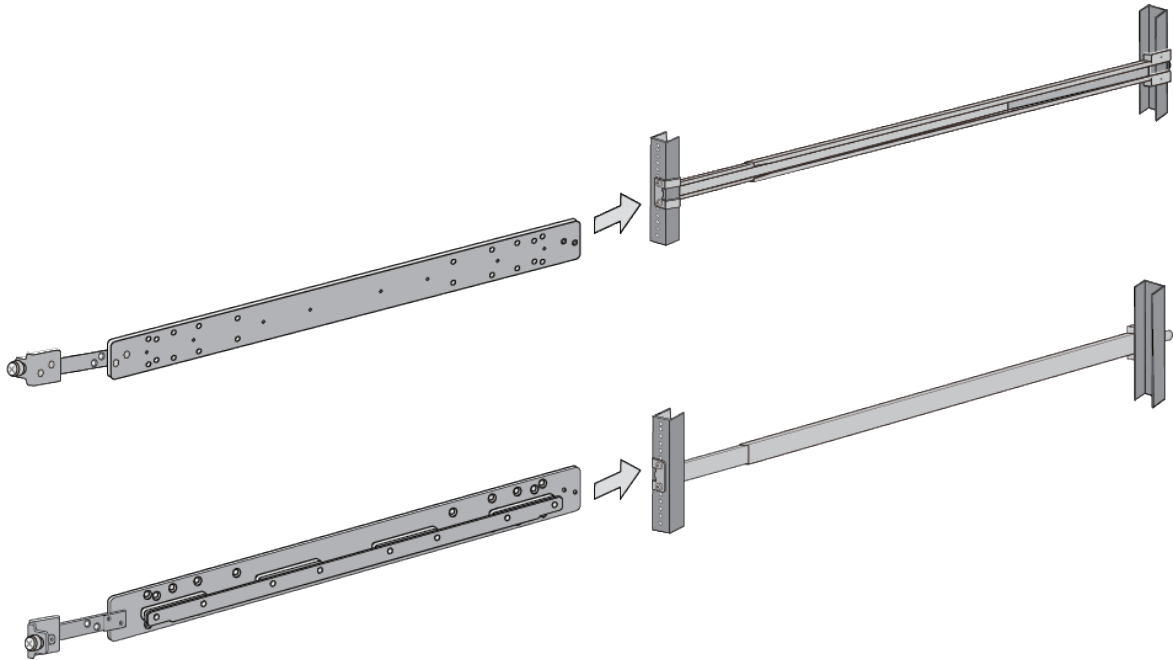

Figure 94. Testing the Inner Rails with the Extension Brackets
- To test the lengths of the extension brackets, slide the inner rails into the outer rails in the equipment rack. Refer to Figure 94.